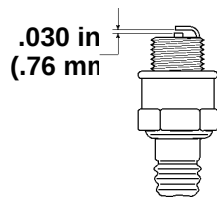

Figure 20
3. Set the gap on the new plug to 0.030" (0.76 mm) (Fig. 20).